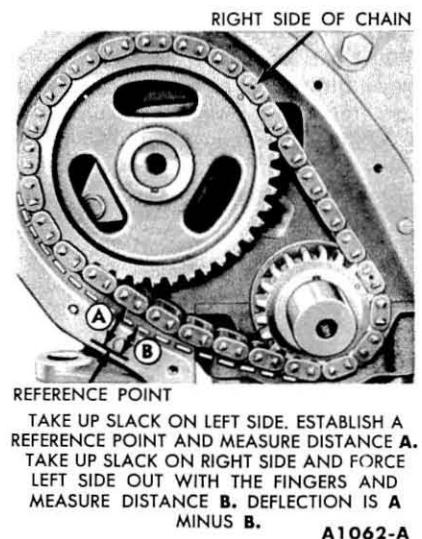

FIG. 35—Timing Chain Deflection
4. Establish a reference point on the block and measure from this point to the chain (Fig. 35).